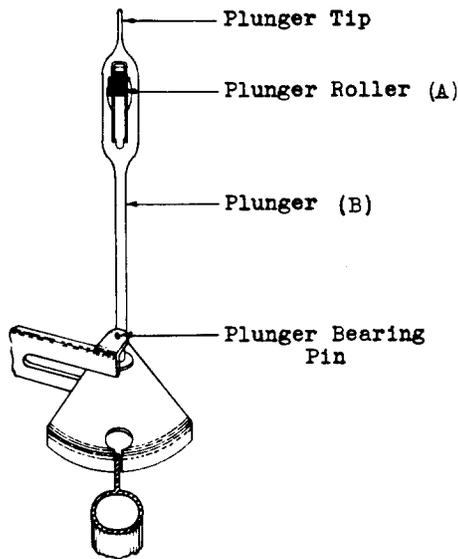

Fig. 3 — Switch Plunger
2.04 Plunger Roller Movement: Fig. 3(A) - The plunger rollers shall turn freely on their bearing pins.
2.05 Straightness of Plunger: Fig. 3(B) — The plunger shall be approximately straight from the plunger bearing pin to the tip. Gauge by eye.